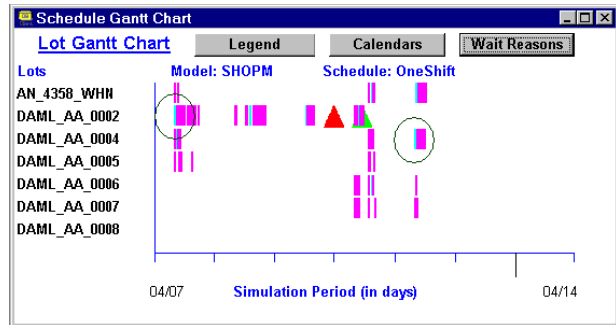

Figure 4: Sample Gantt Chart
- **Schedule Diagnostics** - AutoSched provides Gantt charts and business graphs to help you visually interpret the schedules (see figure 4). Wait reasons can be circled to quickly identify schedule delay reasons.